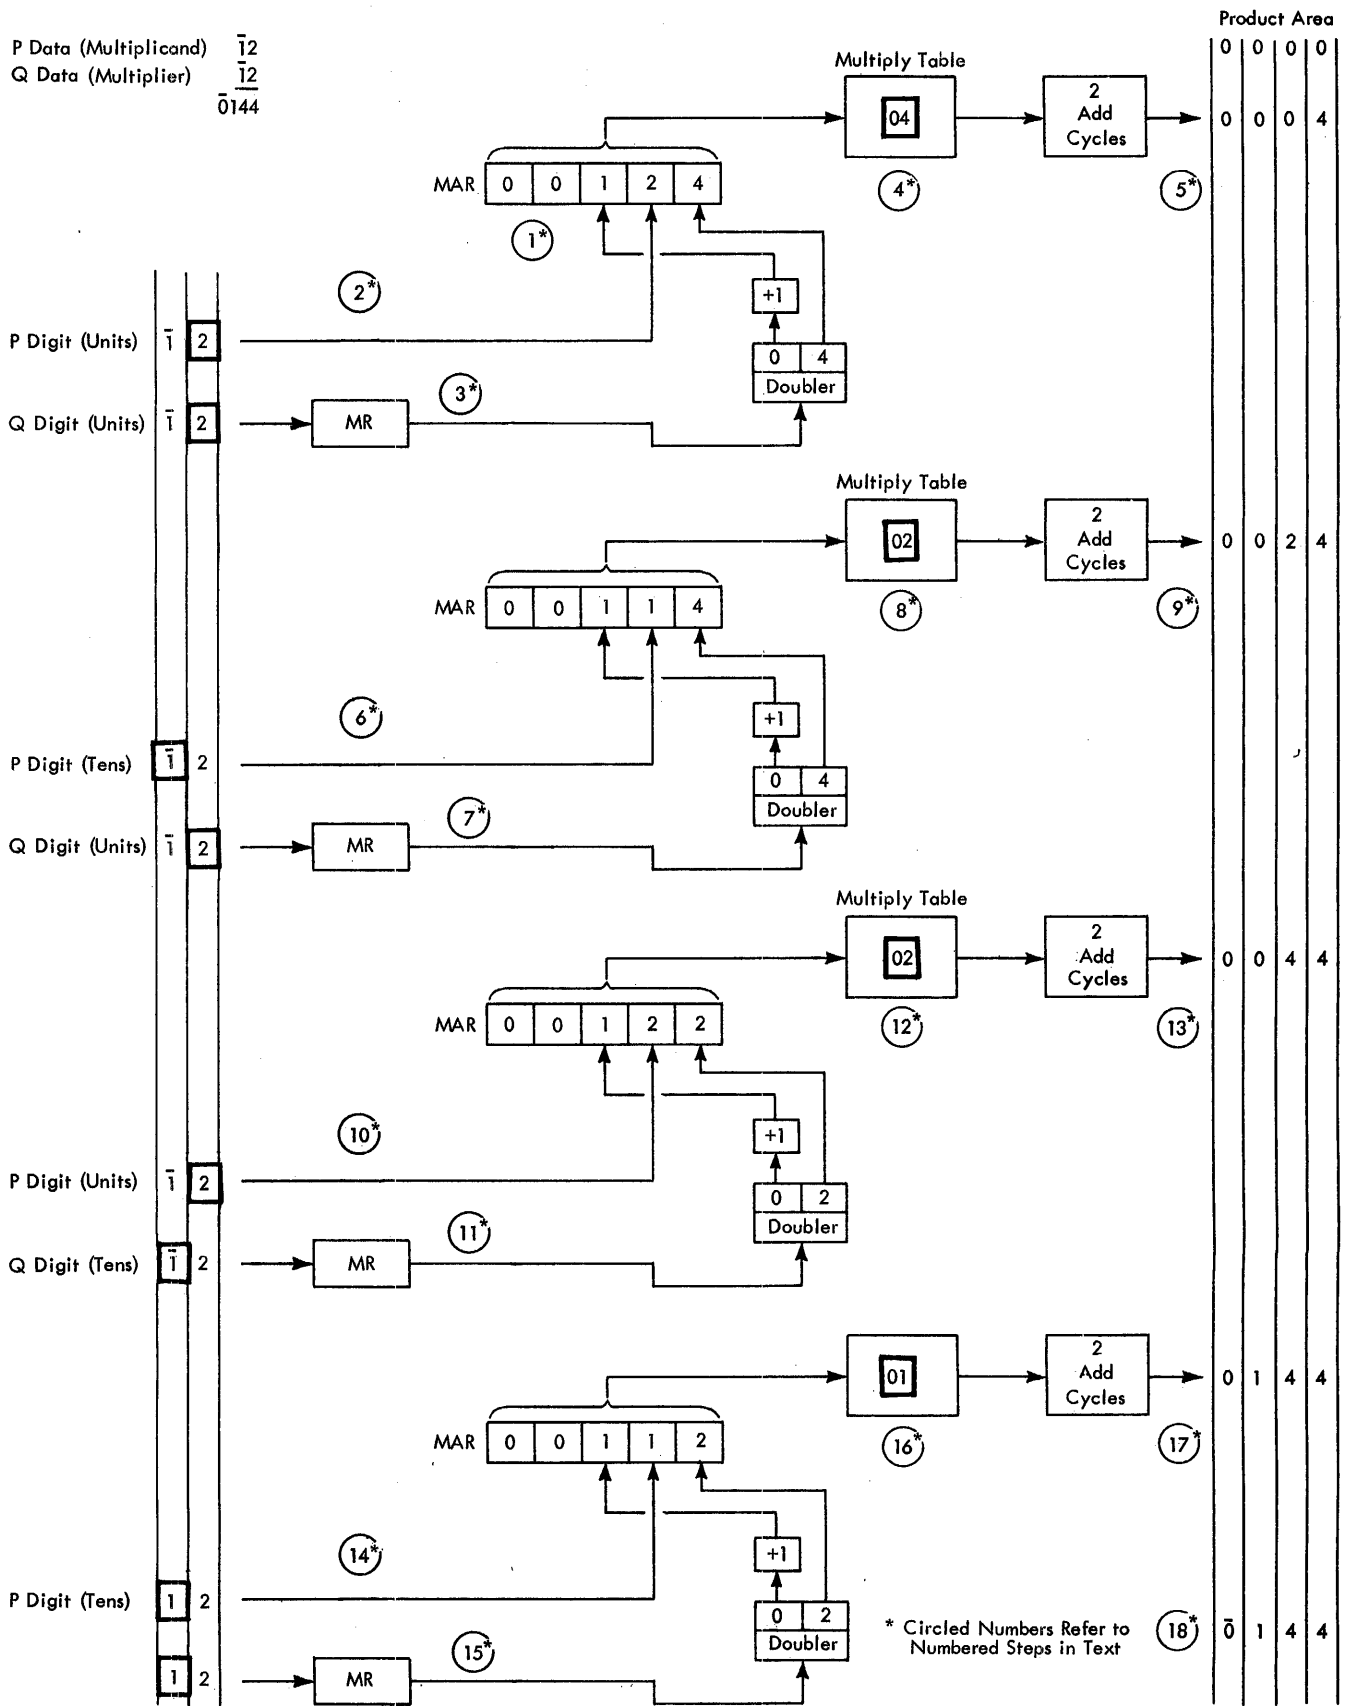

Figure 61. Multiply Operation Diagram
Multiplication is accomplished in the 1620 by combining the digits to be multiplied into a multiply table address. The answer is then "looked up" in the multiply table. Reference to the table in Appendix C will aid in following the procedure shown in Figure 61.
The following steps refer to Figure 61 to show how each multiplier digit is used with the multiplicand. Twelve (12) is multiplied by 12 as follows:
2. The P units digit (2) goes into the tens position of MAR.
3. The Q units digit (2) is routed through the Multiply Register (MR) and the doubler. The doubler is an internal device that doubles the units digit of the multiplier. The doubler increases the 2 to 04 and routes its units digit (4) to the units position of MAR. The tens digit of the doubler (0) is incremented by one and routed to the hundreds position of MAR.